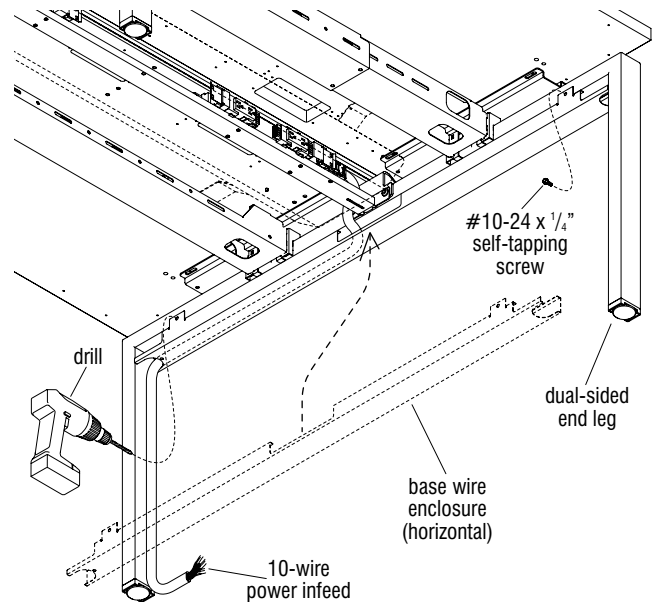

Figure 53
1. Determine which leg the base power infeed will run along into the benching system (Figure 53).
2. To pre-drill mounting holes, first place the base wire enclosure (horizontal) up tight under the leg as illustrated, with the tabs of the enclosure facing upward and to the inside of the leg under the table. Mark through the wire enclosure (horizontal) mounting holes in the tabs, to the inside of the leg and remove the wire enclosure. Use a #4 or  $\frac{7}{32}$ " drill bit in a drill driver to carefully bore two holes at the center of the marked locations. Take care to not drill through the other side of the leg (Figure 53).
position, keeping the power infeed inside the U-shaped opening, while moving the unit up to align the wire enclosure (horizontal) mounting holes in the tabs with the pre-drilled holes in the leg. Secure the cover to the inside of the horizontal leg member using two #10-24 x  $\frac{1}{4}$ " screws. Take care to not over tighten (Figure 53).
4. To pre-drill mounting holes for the base wire enclosure (vertical), first place the enclosure straight against the vertical leg member, and up tight under the U-shaped opening as illustrated with power routing into the wire enclosure. Mark through the wire enclosure mounting holes inside the channel, and onto the inside of the leg, then set the wire cover aside. Use a #4 or  $\frac{7}{32}$ " drill bit in a drill driver to carefully bore two holes at the center of the marked locations. Take care to not drill through the other side of the leg (Figure 53).